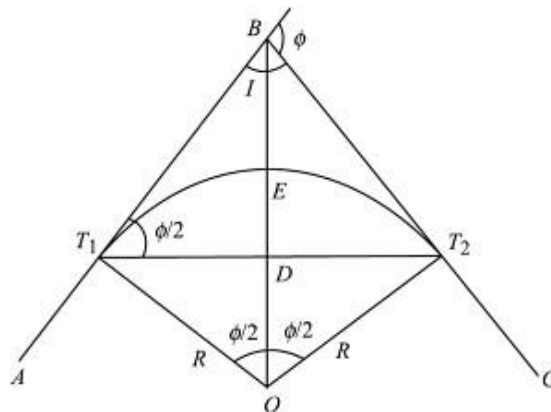

Fig. 10.10 Notations for Circular Curves
1. AB and BC are known as the *tangents* to the curve (Fig. 10.10).